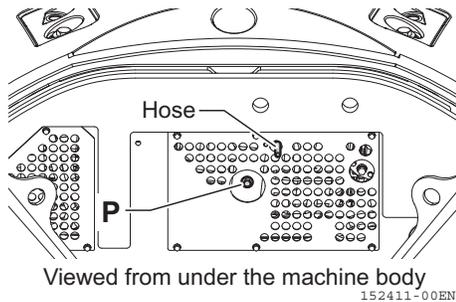

Fig. 3-7
- 1-Remove the drain plug (**Fig. 3-7, P**) and drain the excessive amount of engine oil.
- 2-Tighten the drain plug (**Fig. 3-7, P**).